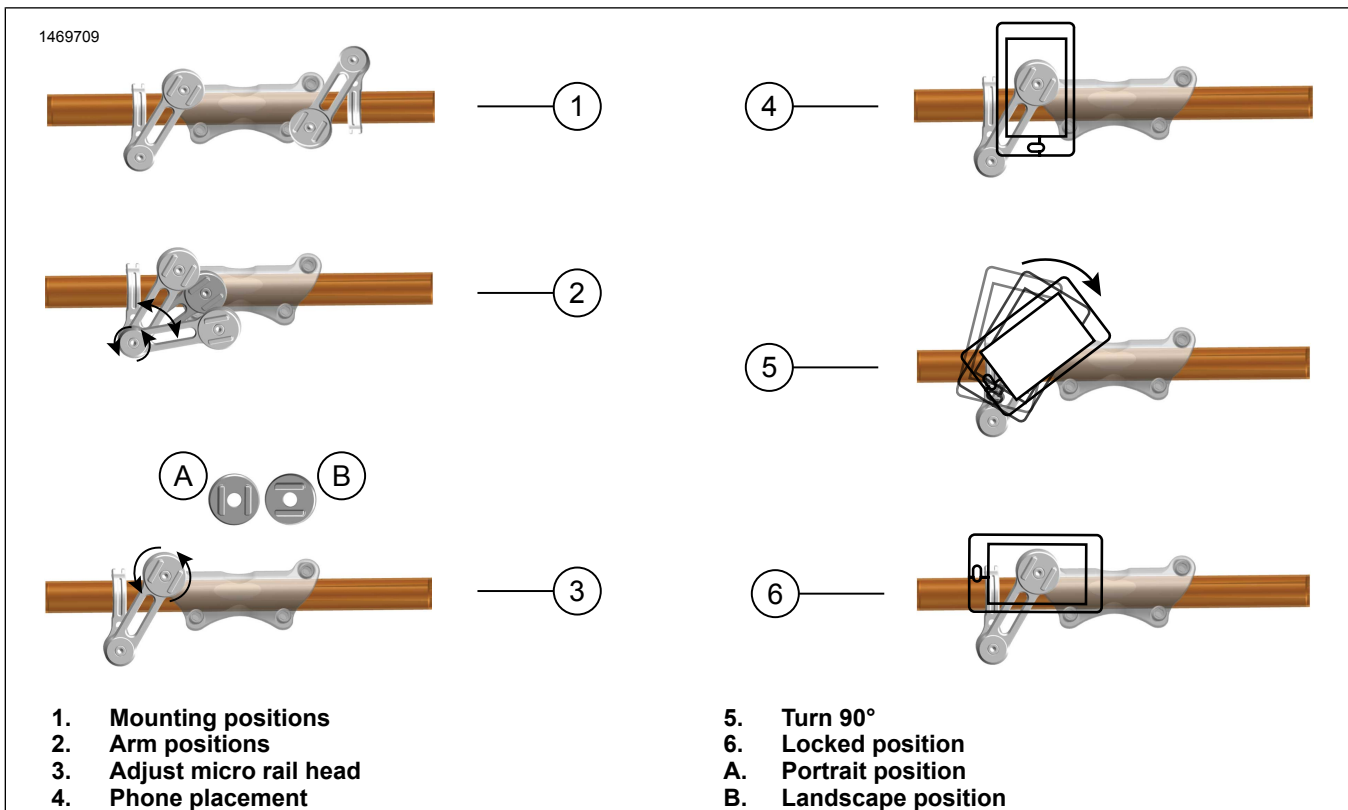

Figure 5. Phone Mount and Positioning Options
1. See Figure 5. Install phone to mount.